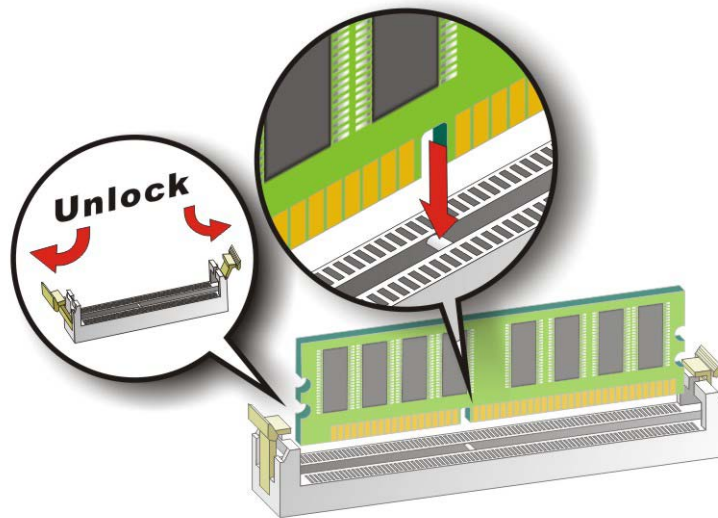

Figure 4-7: DIMM Installation
To install a DIMM, please follow the steps below and refer to **Figure 4-7**.
Step 1: Open the DIMM socket handles. Open the two handles outwards as far as they can. See **Figure 4-7**.
Step 2: Align the DIMM with the socket. Align the DIMM so the notch on the memory lines up with the notch on the memory socket. See **Figure 4-7**.
Step 3: Insert the DIMM. Once aligned, press down until the DIMM is properly seated. Clip the two handles into place. See **Figure 4-7**.